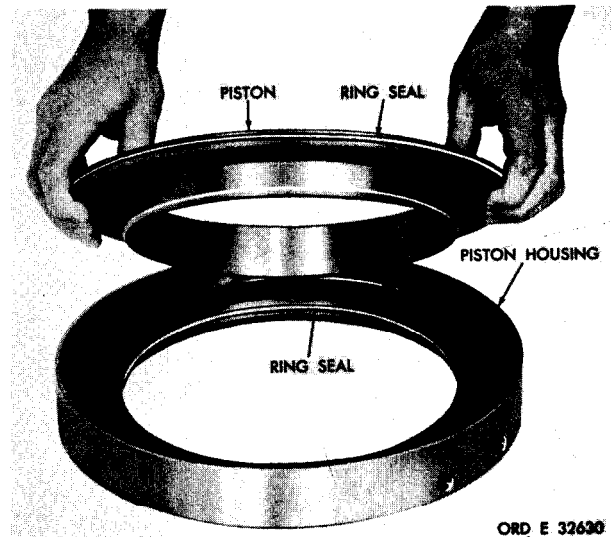

Figure 211. Removing (or installing) intermediate-range piston
(2) Check the small hole through the piston. It must be clean.
b. Intermediate-range Piston and Housing (fig. 211)
(1) Remove the intermediate-range piston from the piston housing.
(2) Remove ring seal and expander from the piston.
(3) Remove ring seal and expander from the piston housing.